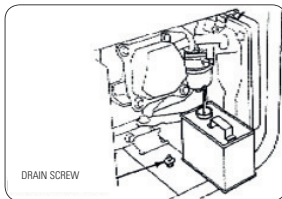

FIGURE 9.6
- A.** Let the engine run with the tank valve closed until the engine turns off or drain through the draining screw. Figure 9.6.